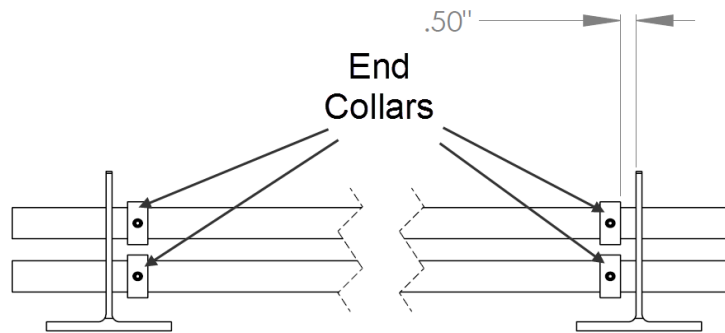

Fig. 1
1. If using on a system with **PP84 External Coupling**: End Collars (PP65) should be placed over the end of each run of pipe, on the inside of the outermost brackets (Figure 1). As the last pipe in the run is installed, the End Collar should be installed. The End Collars should be installed 1/2" from the brackets.